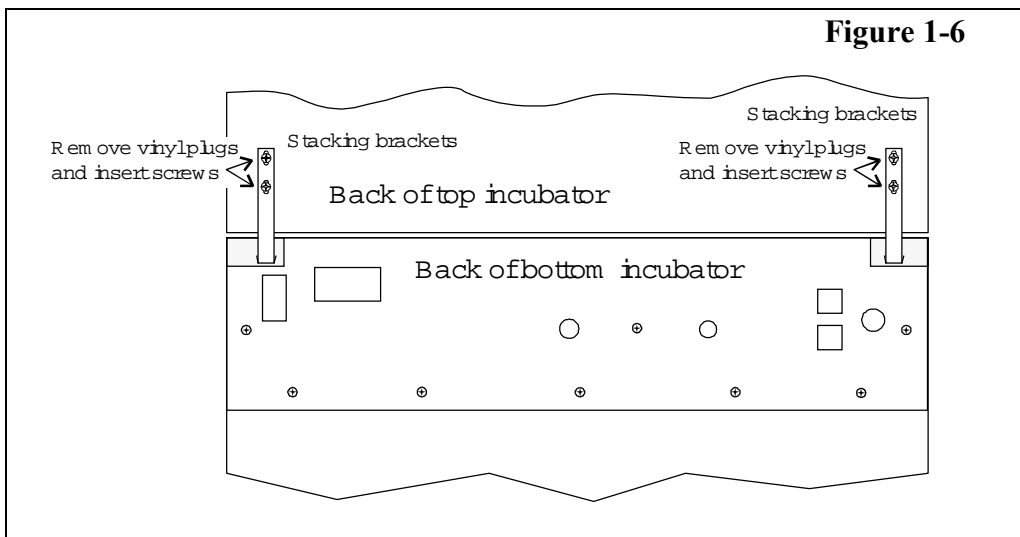

Figure 1-6
6. Insert the stacking brackets into the slots on the back of the control panel of the *bottom* unit as shown in Figure 1-6. Align the slots in the brackets with the mounting holes on the back of the top incubator. Secure the brackets with the screws provided in the stacking kit.